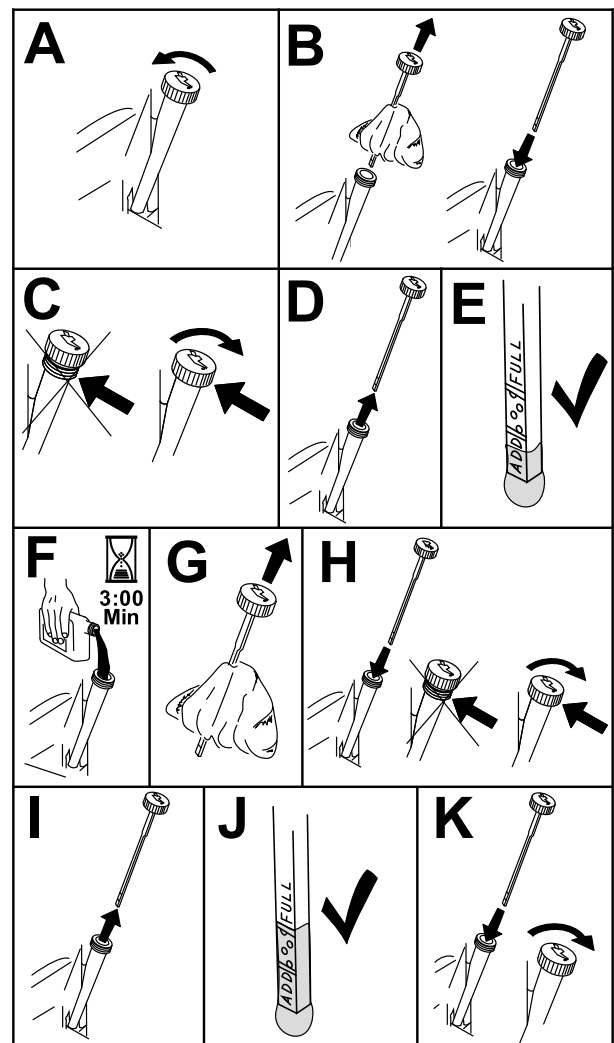

Figure 35
3. To keep dirt, grass clippings, etc., out of the engine, clean the area around the oil-fill cap and dipstick before removing it (Figure 35).